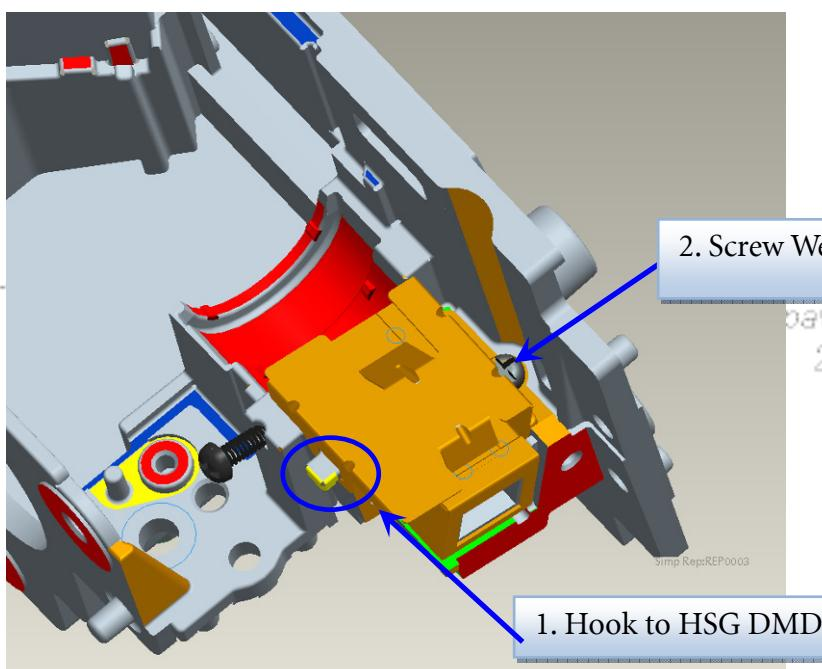

Fig. 1-4
- iii. Hook Clip LP to HSG DMD, and lock with screw well. (Fig. 1-4).
- a. Those 2 Adjustment Screws must be released closely to the “Pre-assembly” positions first (Fig. 1-4).